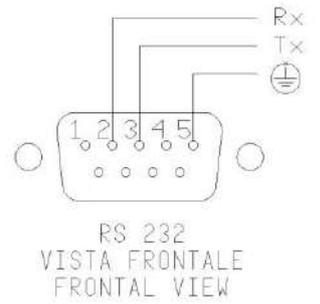

Fig.8
For PC control use the serial communication RS 232 (5) (references fig.8)